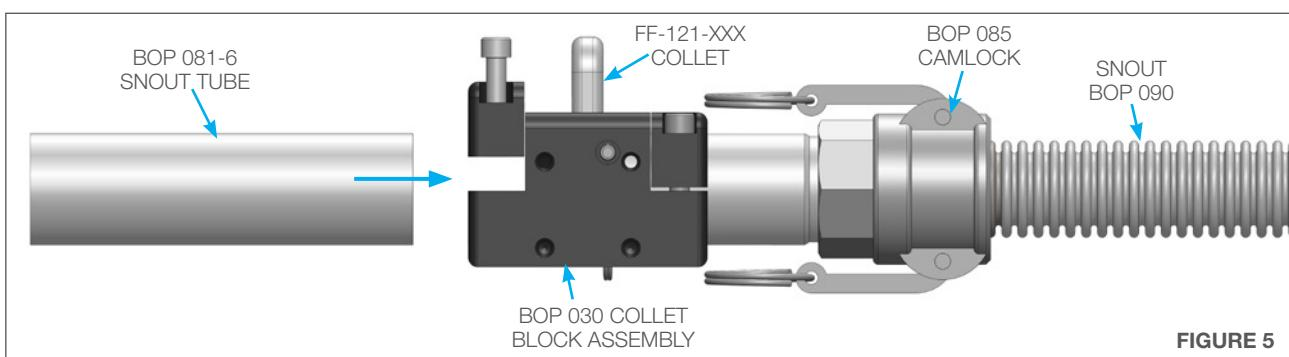

FIGURE 5
5. Loosen the two screws on the collet cap block and slide the BOP 081-6 Snout Tube into the BOP 030 Collet Block Assembly. Push the Snout Tube until it stops in the Collet Block Assembly, then tighten the two screws securely. (**Figure 5**)